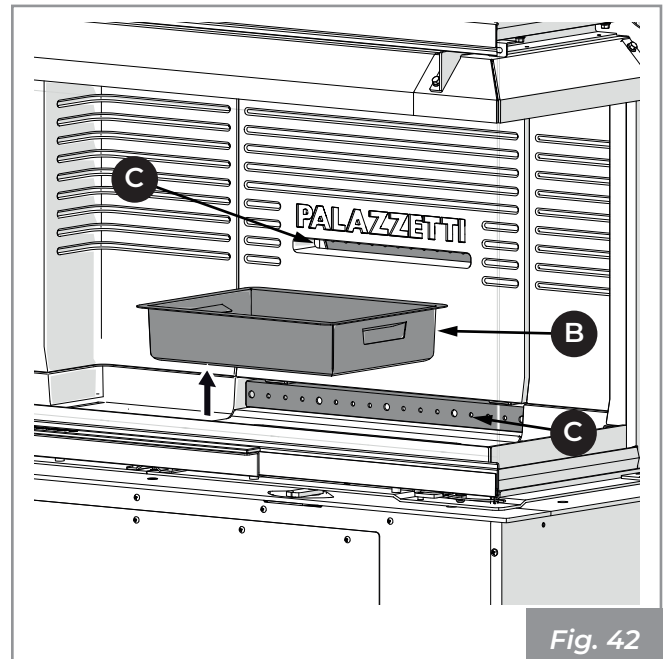

Fig. 42
- 2) Extract the ash drawer (B) from the base and vacuum out any ash deposited in the compartments below (Fig. 42).
- 3) Vacuum the front and rear holes (C) of the combustion air distributor in order to avoid any accumulation of ash (Fig. 42).